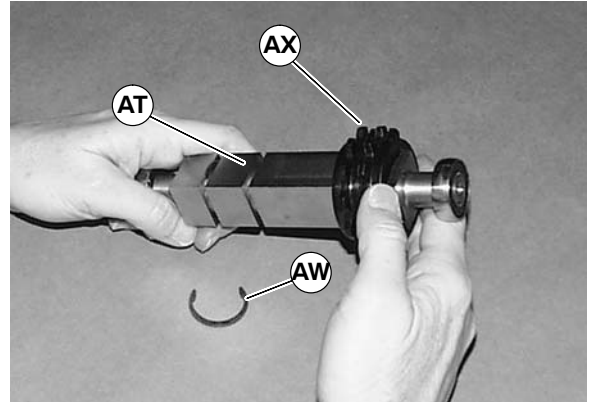

Figure 42
1. Install drive sprocket (AX of Figure 42) with snap rings (AW) to pulley (AT).